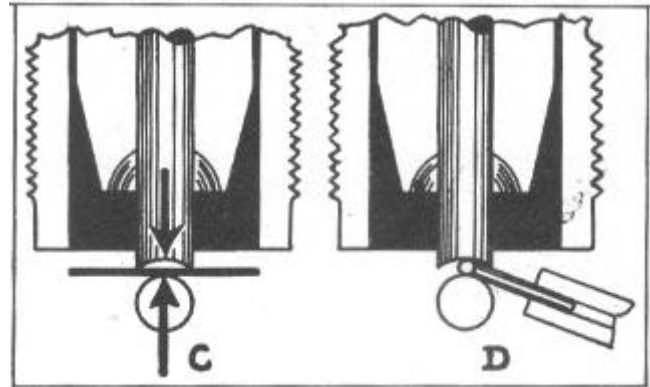

FIGURE 5
4. Adjust spark plug gap to .032 inches to be checked with a wire type feeler as shown at "D", Figure 5, and not a flat feeler as shown at "C".